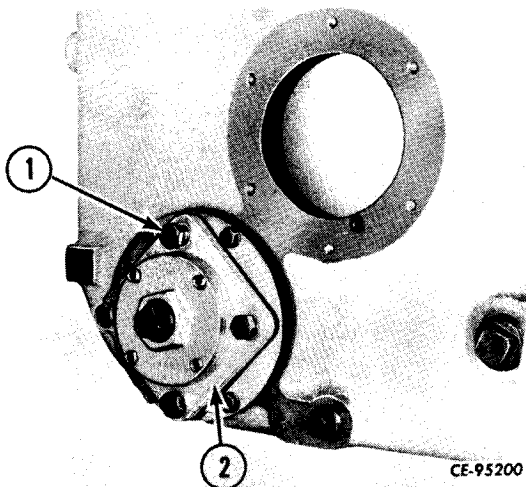

Figure 4-55
Using a new gasket, install the strainer assembly (2, Fig. 4-55) on the transmission housing and secure with cap screws (1) and lock